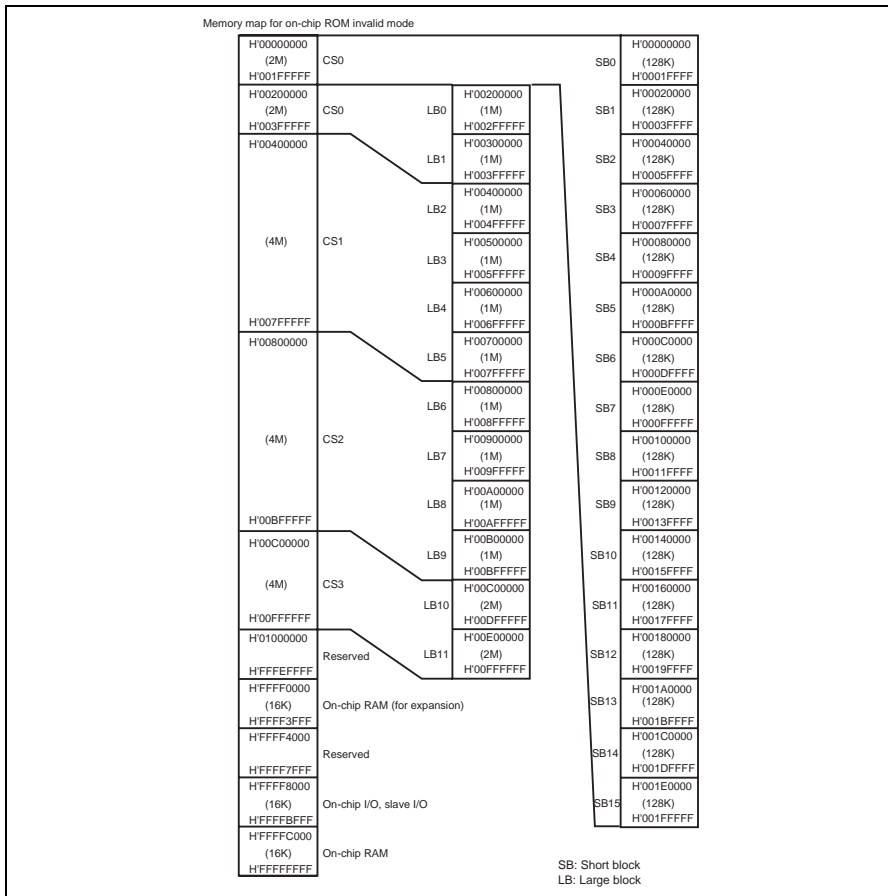

Figure 5.1 Memory Map in the Invalid On-Chip ROM Mode
1. The emulator manages areas in the memory blocks shown in figures 5.1 and 5.2. Emulation memory and user memory cannot coexist in a single block.
The memory map is divided into the 128-kbyte, 1-Mbyte, or 2-Mbyte blocks in each CS area. The accessing attribute can be changed in a unit of each block. For the size of blocks used for each CS area, refer to figure 5.1 or 5.2.
The emulation memory can also be set in a unit of each block (figure 5.1 or 5.2), as well as in the accessing attribute. Some 128-kbyte emulation memory is set for the 1-Mbyte or 2-Mbyte blocks. However, the remaining area of the allocated block cannot be used. This also applies to a case when one 1-Mbyte emulation memory is allocated to the 2-Mbyte blocks.